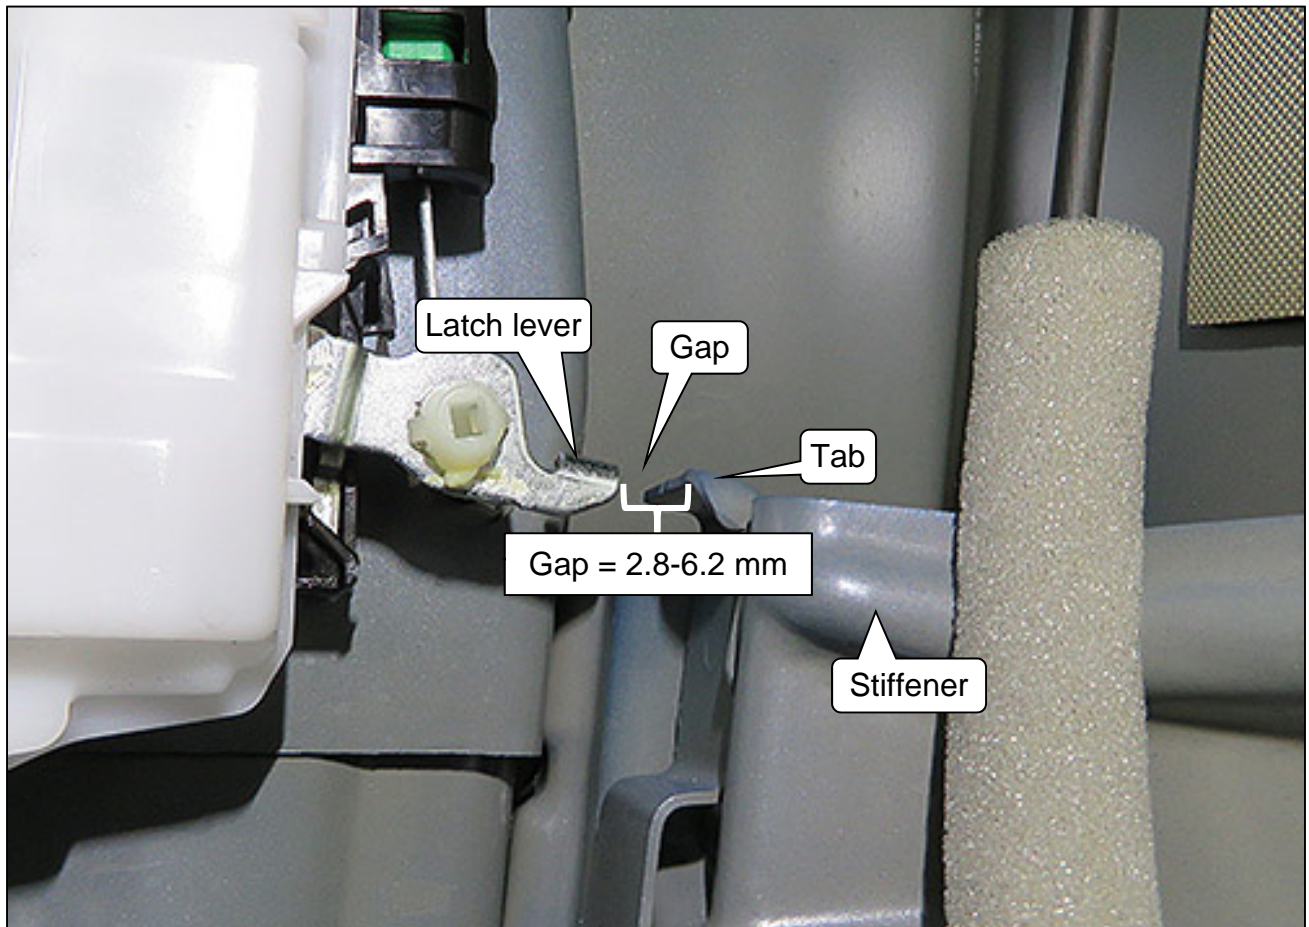

Figure 10
- Refer to Figure 9 below, and Figure 10 on the next page.
21. With the latch lever and tab still level with each other (Figure 10), measure the gap between the latch lever and the tab.